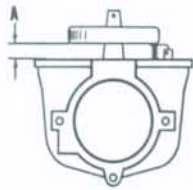

Fig. Mc5-2—Float setting (A) should be adjusted to 11/64-inch.
To disassemble the carburetor, first scribe a mark on body and bowl for proper location when reassembling. Remove high speed needle, packing nut and packing, then remove bowl retaining screw (17), gasket (13) and bowl. Bowl is provided with a spring loaded drain plug (15). Make sure sealing surfaces of plug and bowl are even and smooth, and that spring (14) applies sufficient pressure for a good seal. Float setting should be 11/64-inch (A—Fig. Mc5-2), measured from nearest surface of float to carburetor body gasket flange, with body in inverted position and inlet needle valve closed. Adjust by bending the tab which contacts inlet needle.